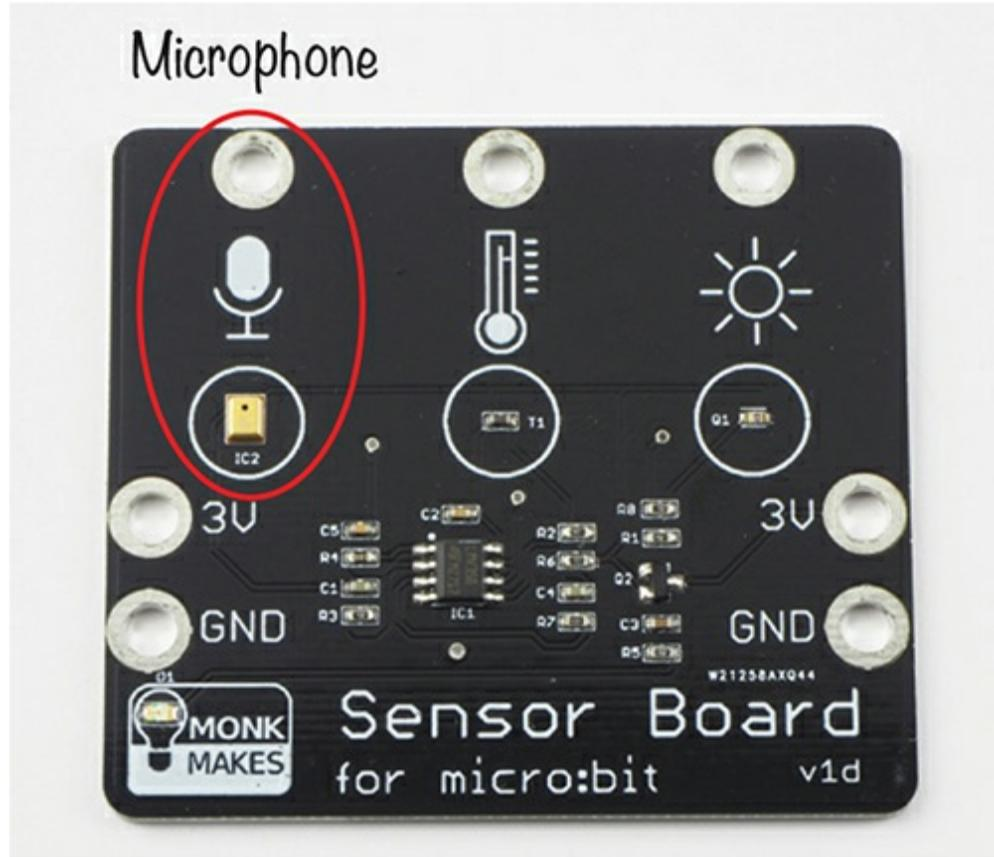

Figure 2-9: The Monk Makes Sensor for micro:bit microphone
3. Once you've programmed the micro:bit, try whistling near the microphone (Figure 2-9) and notice how the LEDs jump in response to the sound level. You can also try tapping the microphone. You can see a short video of the project in action here: <https://youtu.be/6pGDSHmfFng/>.